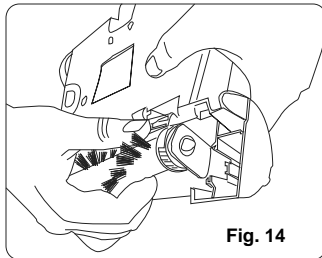

Fig. 14
5. Lift the brush bar end cap up from the slot. (Fig. 14)
9. Insert the brush bar into the slot. (Fig. 14)
5. Pull the brush bar out of the bushing. (Fig. 14)
8. Slide the belt over the brush bar cap and then insert the brush bar into the slot. (Fig. 14)